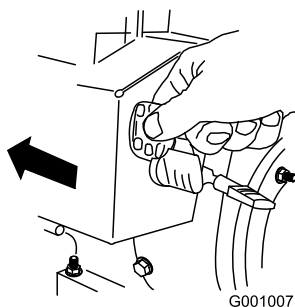

Figure 25
5. Insert the ignition key (Figure 25).